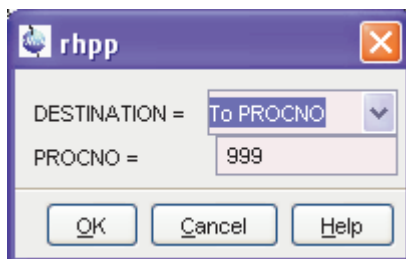

Figure 4.12
*r*p* commands can be started from the command line. When entered without arguments, they open a dialog box as shown in Figure 4.12.